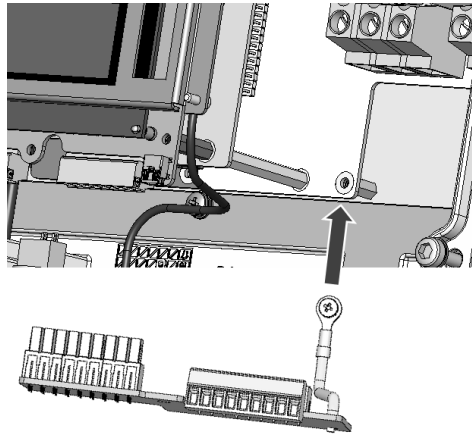

Figure 4: Affixing the Terminal Ring with a Ground Screw
- 4 Remove the inverter grounding screw, as seen below in Figure 4. Position the ring terminal of the surge protection board in its place, and replace and tighten the screw.